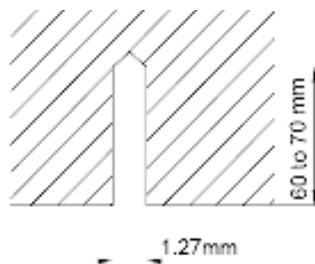

Figure 3-1-41
- (2). Install the bolts to the ceiling at a place strong enough to hang the unit. Mark the bolt positions from the installation template. With a concrete drill, drill for 12.7 mm (1/2") diameter holes. (Figure 3-1-41)